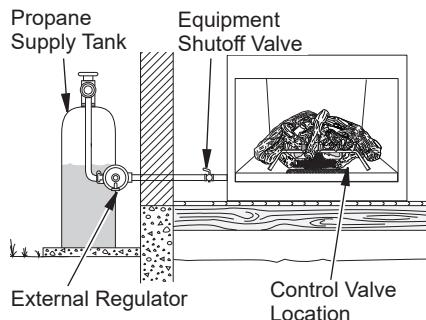

Figure 16 - Checking Gas Joints for Propane Gas
3. Check all joints from gas meter to equipment shutoff valve for natural gas or propane supply to equipment shutoff valve for propane (see Figure 16 or 17). Apply a noncorrosive leak detection fluid to all joints. Bubbles forming show a leak.
4. Check all joints from equipment shutoff valve to control valve (see Figure 16 or